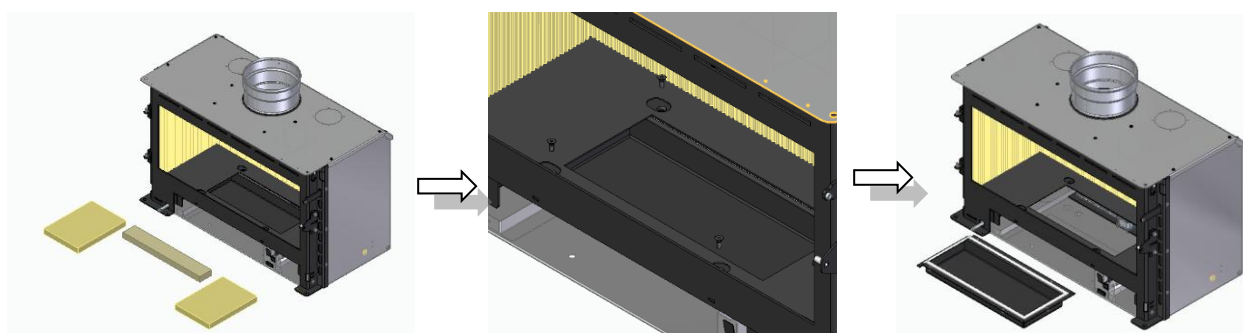

Figure 45 – Removal of vermiculite from the bottom and drawer
c. Remove the vermiculite from the bottom of the interior of the combustion chamber and then unscrew the bottom screws that secure the box, the box, once unscrewed, comes out from under the equipment, see Figure 45.